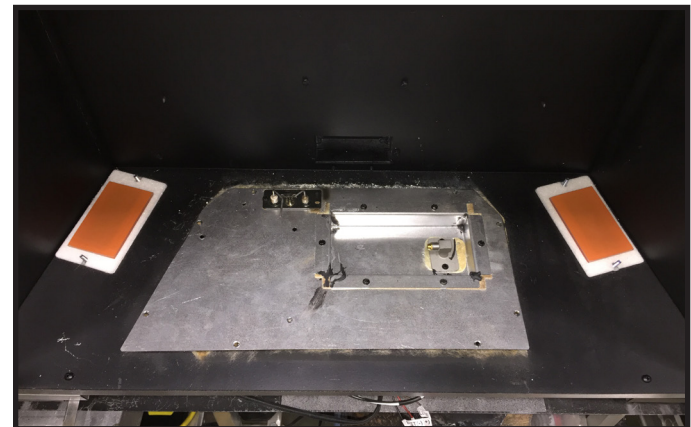

Figure 11.
- Center accent glass on each gasket. See Figure 11.